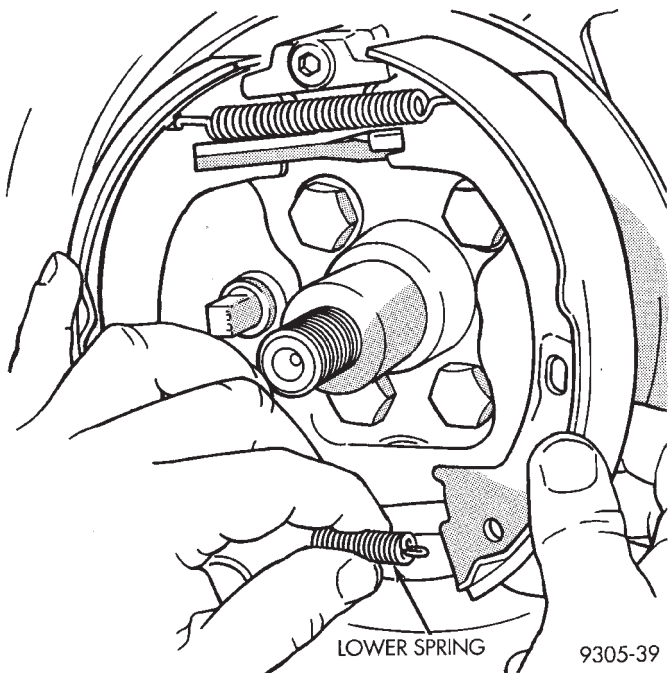

Fig. 152 Brake Shoe Lower Return Spring
(9) Remove lower shoe to shoe spring (Fig. 152).
- (4) Install the lower shoe to shoe return spring (Fig. 152).